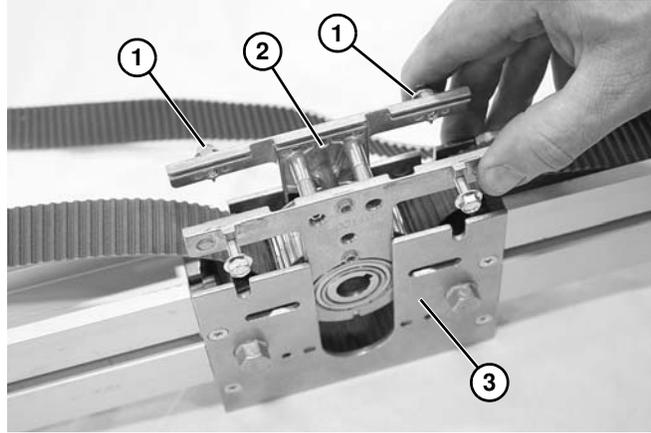

Figure 37
- a. **Non-Drive Side:** Loosen hex flange screws (Figure 37, item 1). While pressing in on hex flange screws lift mid drive cartridge (Figure 37, item 2) from mid drive assembly (Figure 37, item 3).